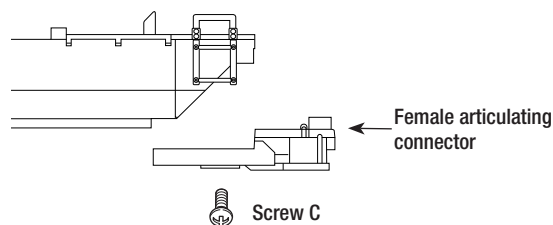

Figure 3. Installing the female articulating connector
3. Install the female articulating connector using the phillips head screw removed in step 2. See figure 3.